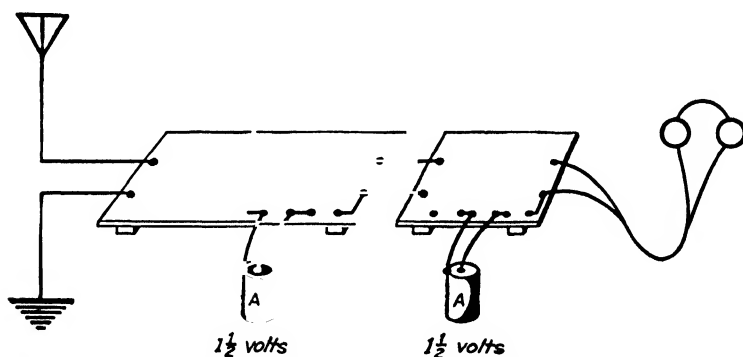

FIG. 223. Step 2, connect an A battery to the detector and to the amplifier board.
Step 2. Connect a $1\frac{1}{2}$ -volt A battery to the detector and another $1\frac{1}{2}$ -volt A battery to the amplifier, as shown in Fig. 223. You will learn later how to use only one A battery for the entire set.